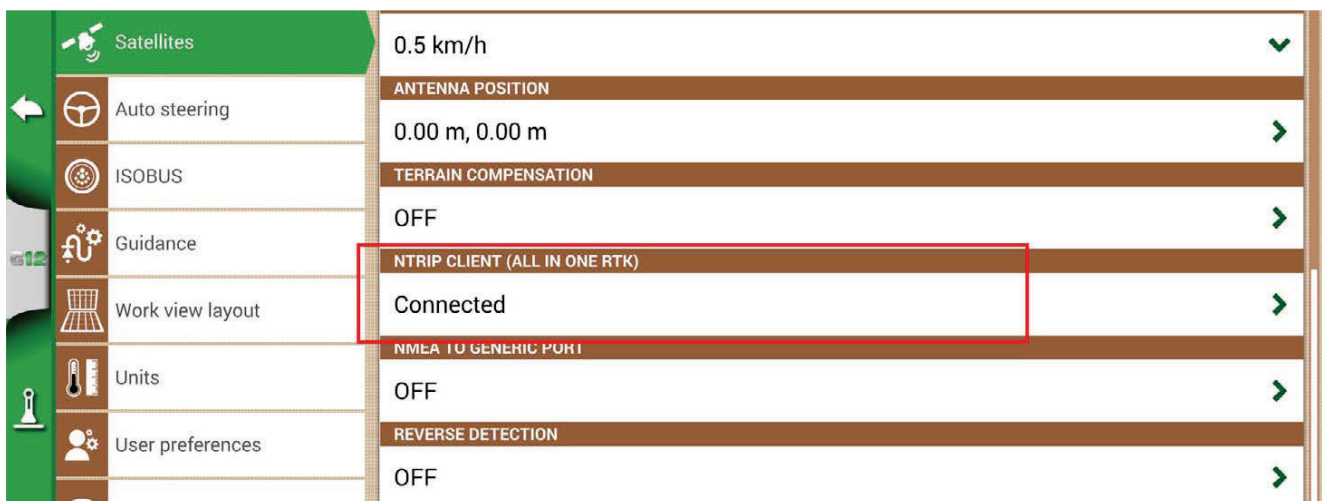

Figure 6.1.2.a - Satellites settings page
- In the Main Menu tap on “SETUP” and select “Satellites” and tap on “NTRIP CLIENT (All in One RTK)”. See Figure 6.1.2.a